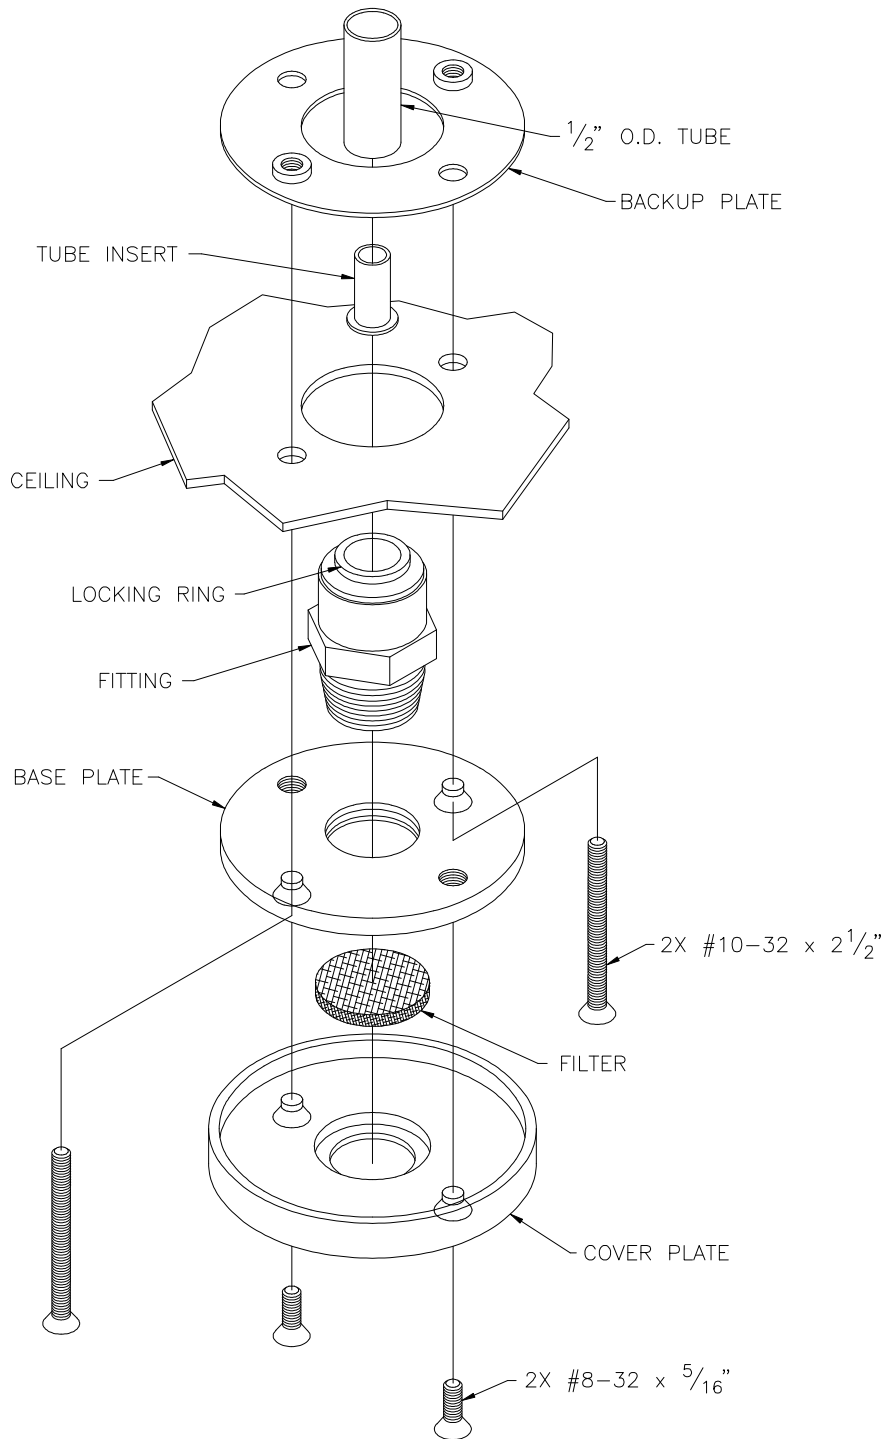

Figure 4.2
4. Screw fitting into base plate as shown in Figure 4.2 (see following page). Only hand tighten fitting.
6. Secure the base plate with fitting to the ceiling using the galvanized backup plate and two #10-32 X 2-1/2" flat head screws. See Figure 4.2.
7. Place the filter into the recess in the nylon cover plate, and install cover plate to the base plate using two #8-32 x 5/16" flat head screws. See Figure 4.2.
8. Install tube inserts into each end of 1/2" O.D. tube. Total of 4. See Figure 4.2.